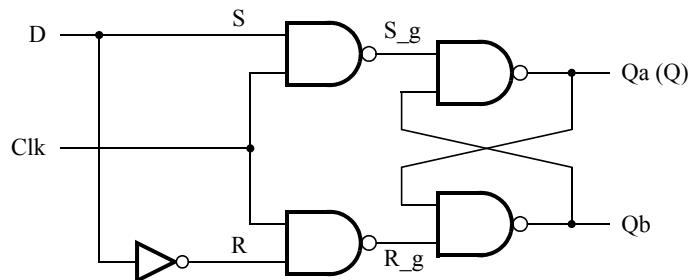
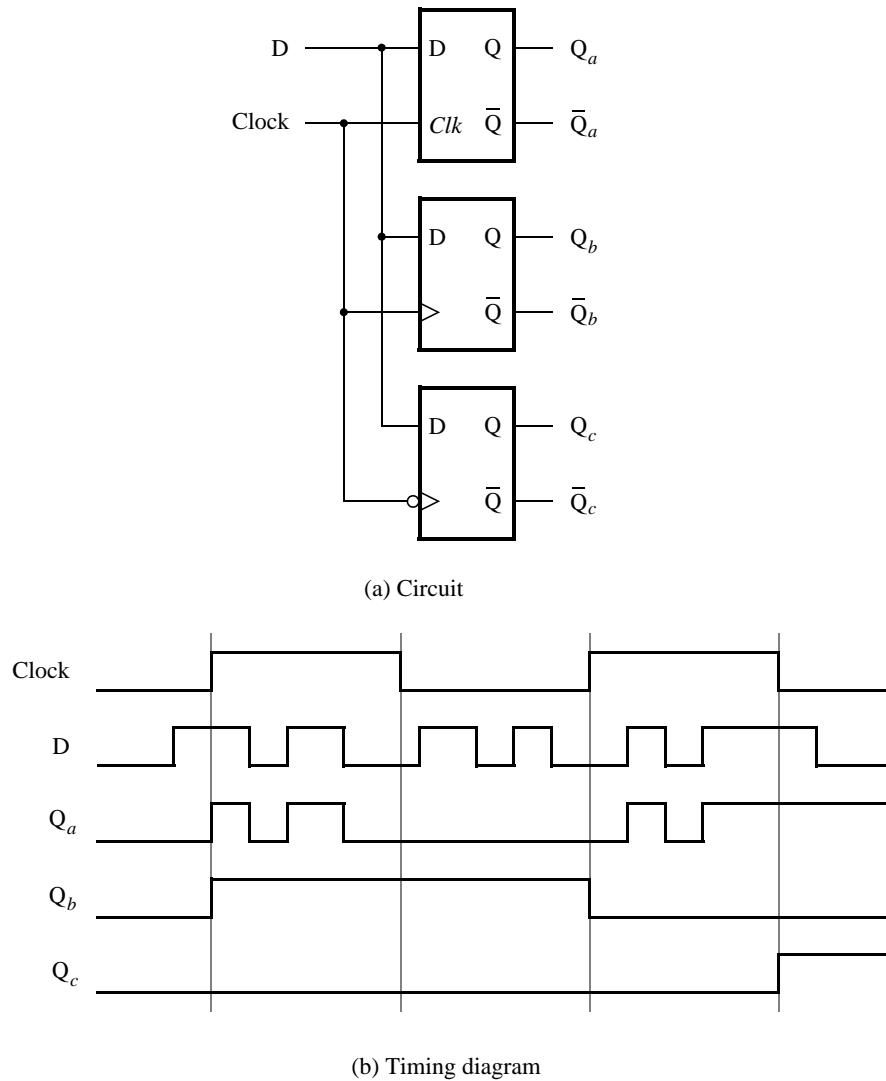

Figure 5: Circuit for a gated D latch.
Figure 7: Circuit and waveforms for Part IV.
Figure 5 shows the circuit for a gated D latch.
Figure 7 shows a circuit with three different storage elements: a gated D latch, a positive-edge triggered D flip-flop, and a negative-edge triggered D flip-flop.
2. Write a VHDL file that instantiates the three storage elements. For this part you should no longer use the KEEP directive (that is, the VHDL ATTRIBUTE statement) from Parts I to III. Figure 8 gives a behavioral style of VHDL code that specifies the gated D latch in Figure 5. This latch can be implemented in one 4-input lookup table. Use a similar style of code to specify the flip-flops in Figure 7.
4. Use Modelsim to simulate the circuit you created. Use the included testbench file to specify the inputs D and $Clock$ as indicated in Figure 7. Make sure that the testbench correctly instantiates the module you created and run the simulation to observe the different behavior of the three storage elements.